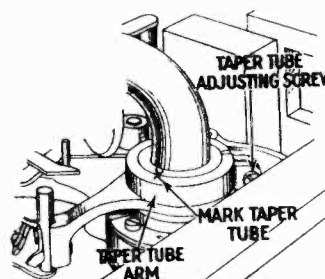

Fig. 11
- Etch a mark across the gold plated portion of the base of the tone arm and taper tube arm as shown in Fig. 11, so as to mark the position of these two parts with relation to each other. The replacement can, thus be made with a minimum of adjustment.
- Remove the three (3) screws (one of which is shown in Fig. 11) on the base of the tone arm.